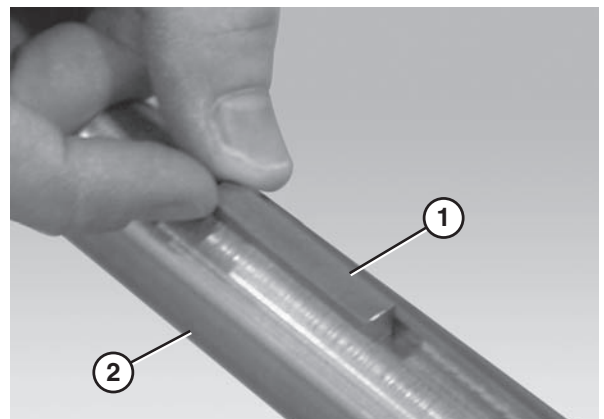

Figure 63
4. Remove the drive spindle key (Figure 63, item 1) from the drive spindle keyway (Figure 63, item 2).